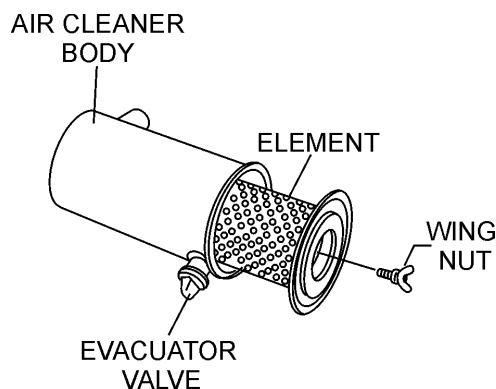

Figure 6. Air Cleaner
1. Open the **evacuator valve** (Figure 6) once a week under ordinary conditions or daily in dusty conditions. This will eliminate large particles of dust and dirt within the air cleaner.